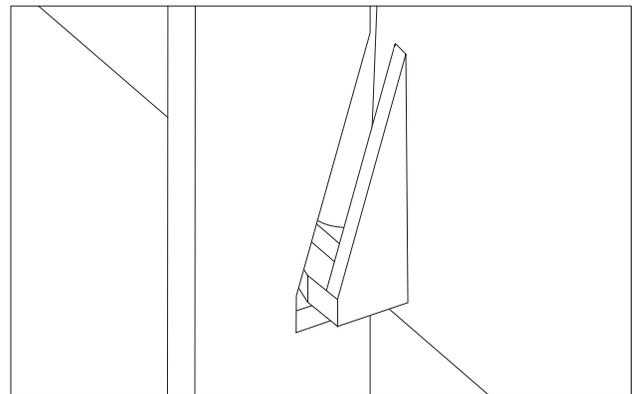

Fig 5-5 Battery Module Retaining Flange
**Note:** As the battery module slides into the bay, a retaining flange will fall behind a notch in the frame. See figure 5-5. This is a safety feature. When the battery module is removed from the frame, this flange prevents the battery from falling out of the bay until both people have assumed the full weight of the module.